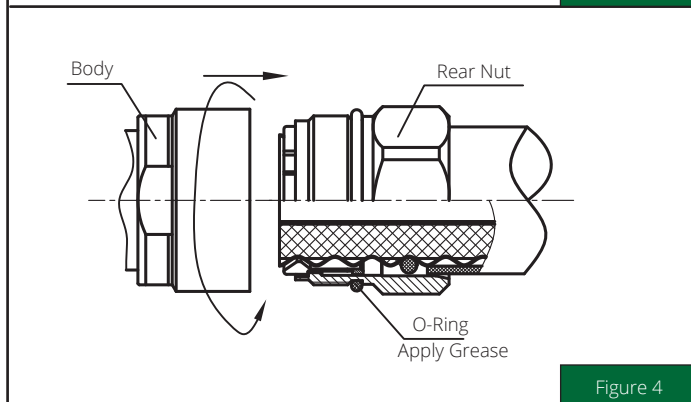

Figure 4
1. Screw the body and rear nut together as shown by the adjacent diagram (Figure 4).